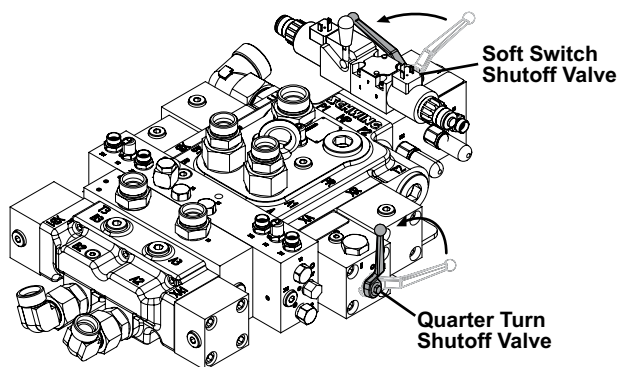

Figure 38
1. With the engine running and E-Stops cleared, increase the throttle to maximum RPM. Close the quarter turn and soft switch valve (Figure 38).